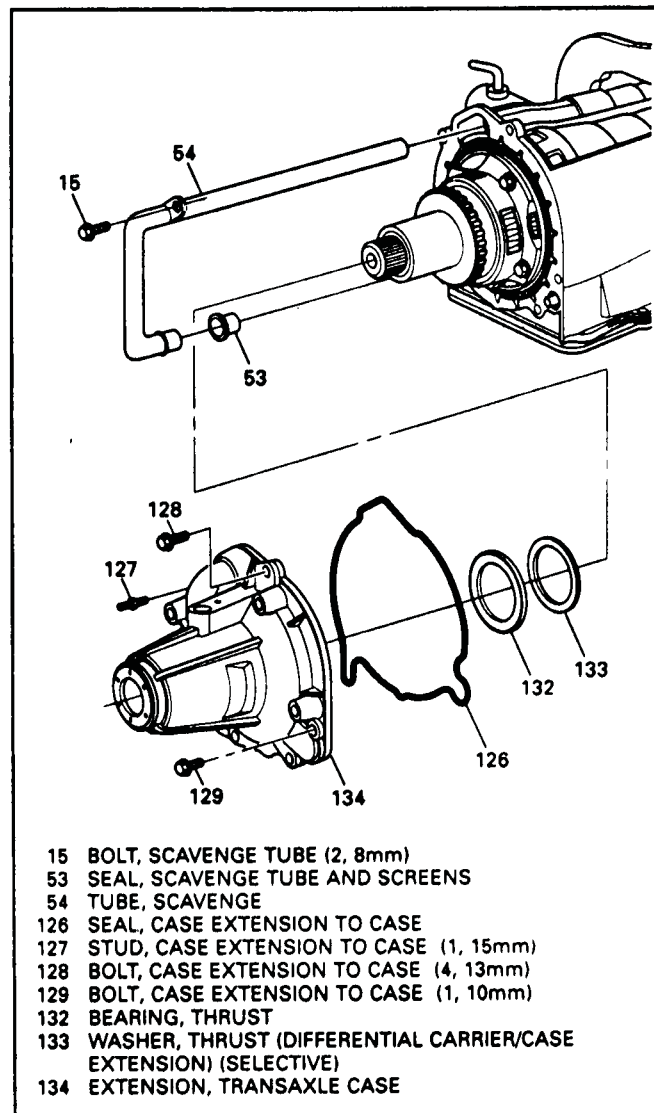

Figure 122
1. Install new scavenge tube seal (53) into the case (See Figure 122).
2. Install scavenge tube (54) into case, by tapping lightly using a plastic mallet to ensure fit in both seals. (See Figure 122). There is one seal in the case and one in the driven sprocket support.
4. Install scavenge tube retaining bolt and torque to 6-10 ft.lbs. (See Figure 122).
5. Install selective washer and thrust bearing on to differential output shaft (See Figure 122).
7. Install new case extension seal (126) into extension housing (Figure 122).
8. Install case extension onto the case and install stud and retaining bolts. (See Figure 122).
9. The stud goes in 11 o'clock position, as shown in Figure 122.